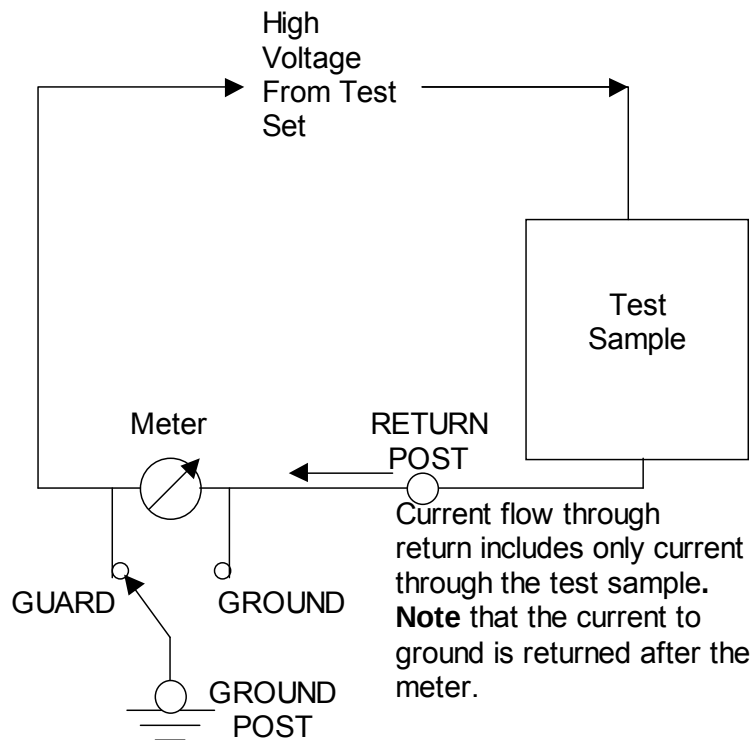

Figure 3, Guarded Return Diagram
- 2. Guarded Return-** With the output return in the guarded mode, the current meter will only read currents through the test sample. The test sample must be isolated from ground on the low side as shown in **Figure 3** below.